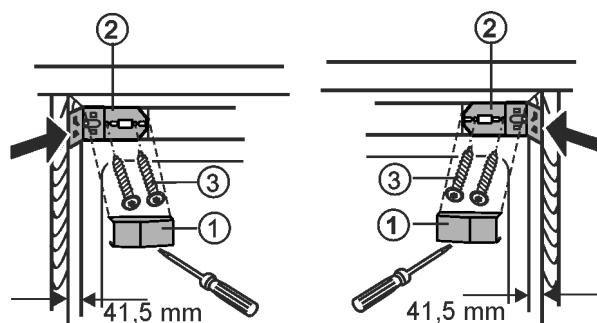
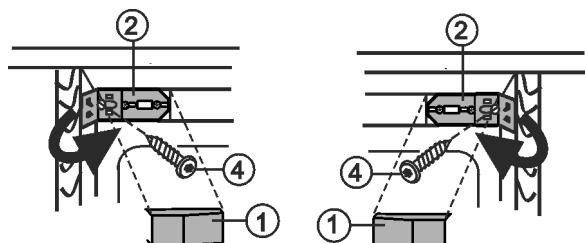

Fig. 11
Fig. 16
- Remove the cover Fig. 11 (1) at the top right and left.
- Screw in the fixing bracket Fig. 11 (2) loosely on the right and left with screws Fig. 11 (3).
- ▶ Fasten the appliance on the right and left with screws Fig. 16 (4) on the side wall of the unit. Tighten the screw Fig. 11 (3) fully.
- ▶ Fold up the side part of the mounting bracket Fig. 16 (2) 2 and lock it in place.
- ▶ Snap the cover Fig. 16 (1) back into place.